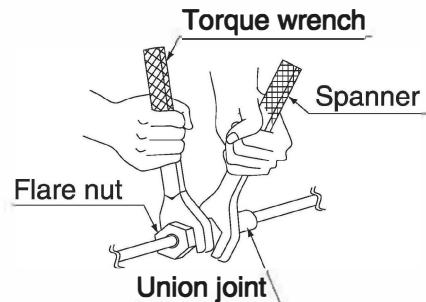

Fig. 14
- When connecting the pipings to the air conditioner, make sure to use a spanner and a torque wrench as shown in Fig. 14.